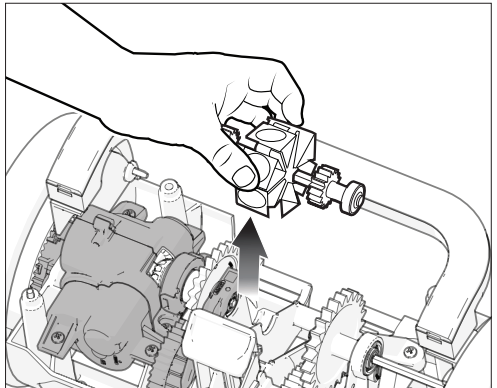

Figure 11. Remove the Engine
3. If necessary, pull the engine by the engine blades and remove it. No tools required (Figure 11).
4. Reinstall the engine. Make sure the engine is installed with the metal bearing on the "B" side of the cleaner where the Direction Control Device and the black gears are located (Figure 11).